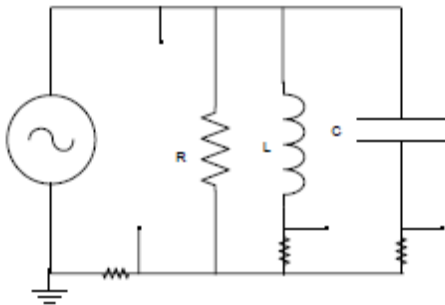

Figure. 5. The experimental setting to record resonance. $R= 100 \Omega$, $L=100 \text{ mH}$, $C= 10 \mu\text{F}$.
7. Construct the circuit of Figure 5. Set the supply to 1 V in the sinusoidal mode.
- (a) For the circuit of Figure 5, draw on separate graphs the magnitude and angle of the circuit impedance vs the frequency of the source. Use your measurements. Mark the resonance frequency on the graph. Compare with the theoretical value. What is the magnitude and angle of the circuit impedance at resonance? In what frequency range is the impedance inductive? In what frequency range is the impedance capacitive?